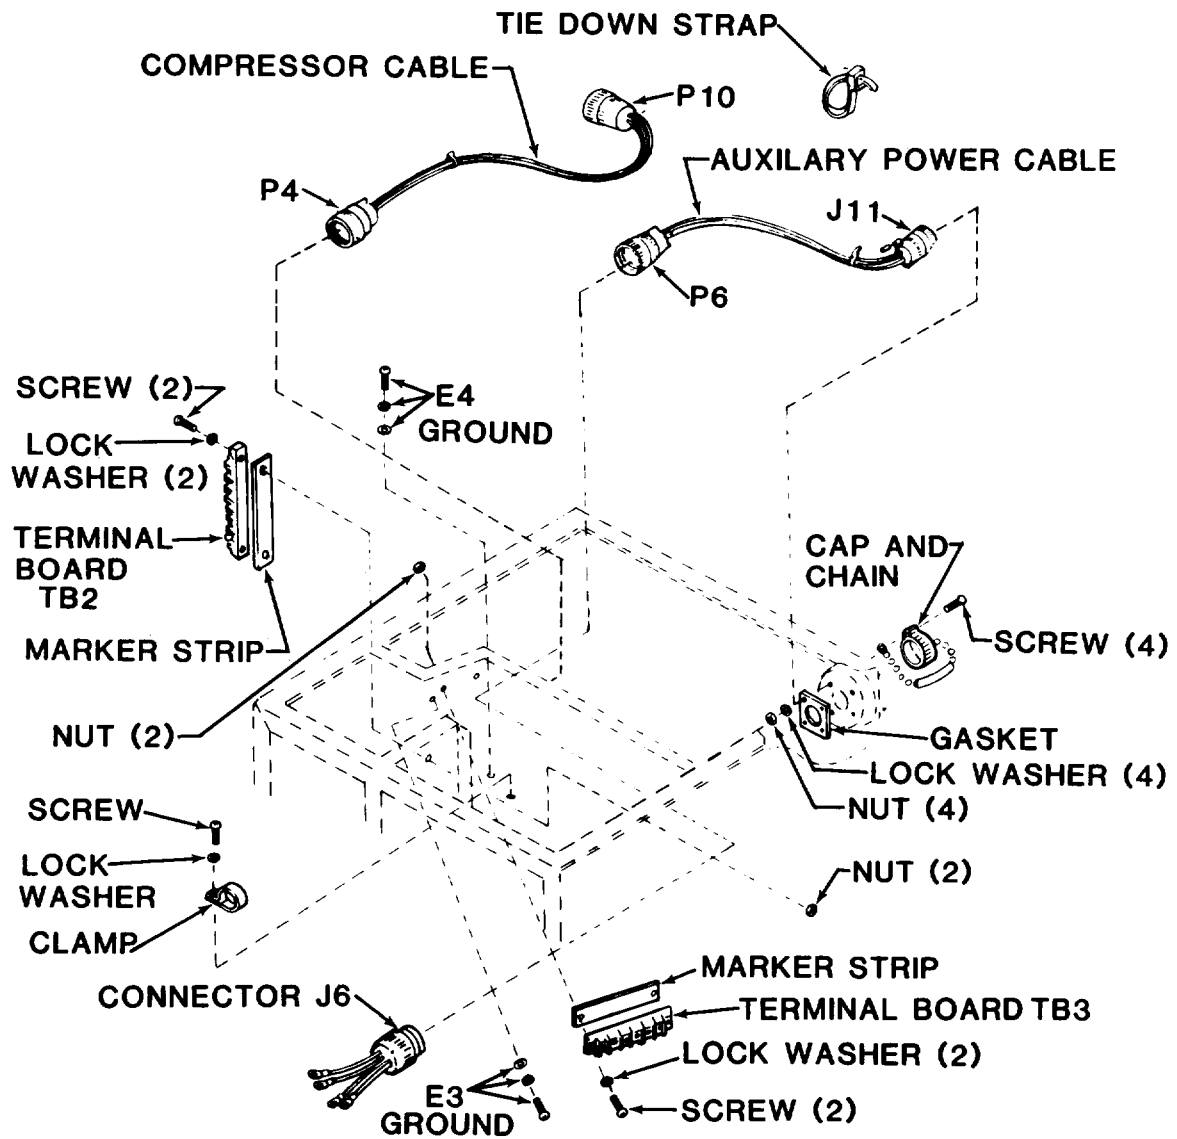

Figure 4-26. Miscellaneous Cables, Harnesses, and Terminal Boards
a. Inspect/Test. (See fig. 4-26.)
(1) Disconnect power at power source.
(2) Remove top rear cover on F18H-3S and F18H-1S or top cover on F18H-3SA and F18H-3SB (para 4-11) for access to compressor and auxiliary power input cables.
(3) For full access to terminal blocks TB2 and TB3 it is necessary to: